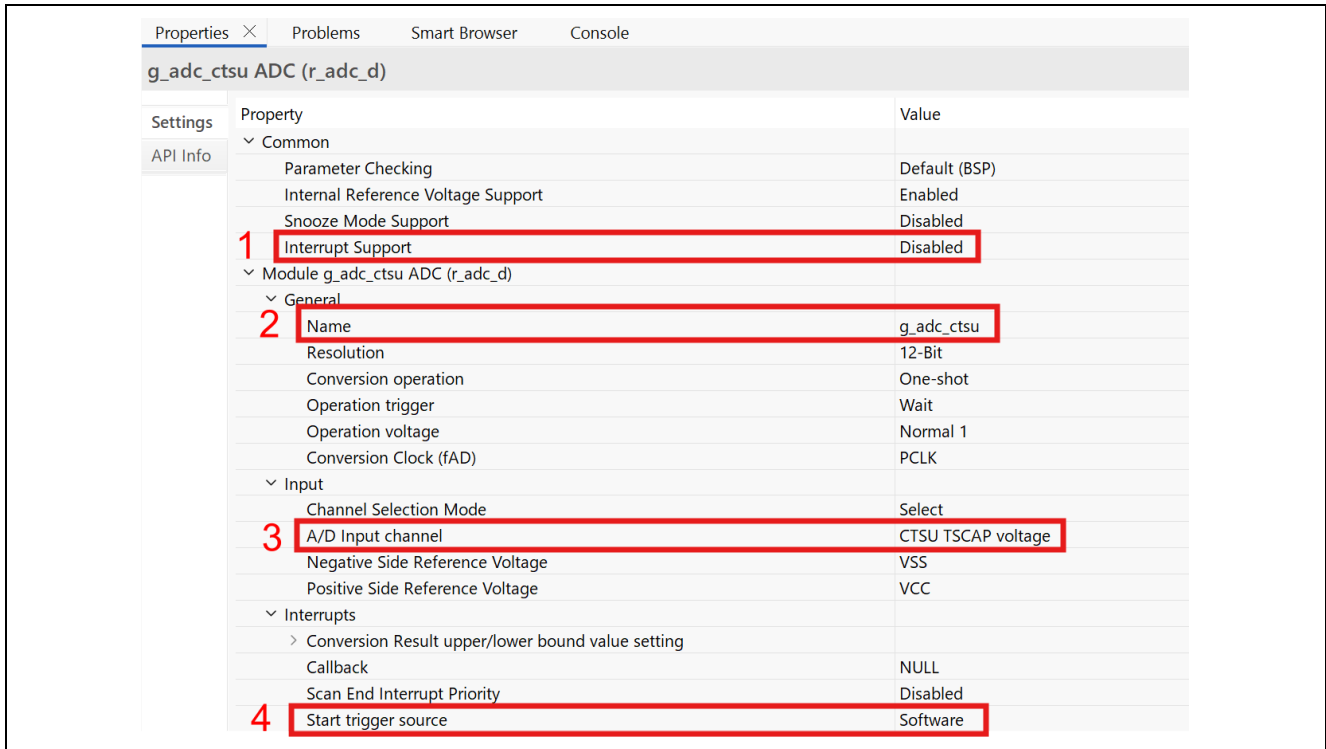

Figure 6-3 Configure "g_adc_ctsu" (RA0L1/NM mode)
6. If you are using an RA0L1 in NM mode, select “g_adc0 ADC” and click [Properties] at the lower left. As shown in Figure 6-3, change the following settings.